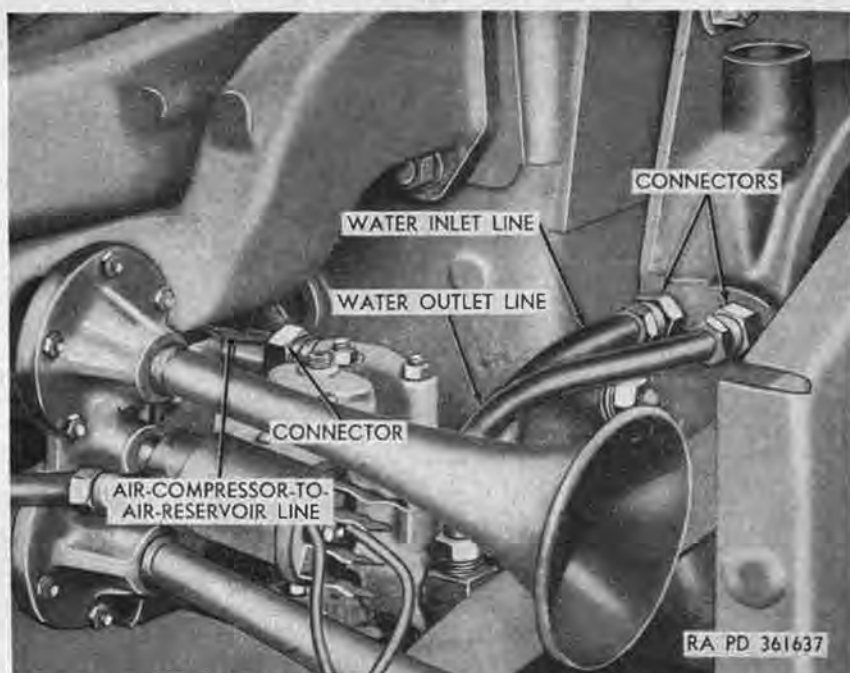

Figure 153. Air compressor lines and connectors.
- (4) *Remove air compressor.*
- (a) Unscrew connectors (fig. 153) at right side of water pump housing, and remove water inlet line and water outlet line from housing.
- (c) Screw connectors (fig. 153) on water inlet and outlet lines into connectors installed in right side of water pump housing, and tighten.